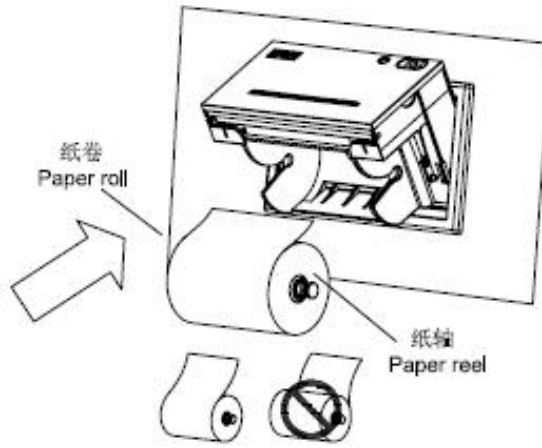

Figure 2-4
- (3) Install paper roll to paper reel as figure 2-4, hold both sides of paper reel, put paper roll into paper case, then release paper reel and fastened it.